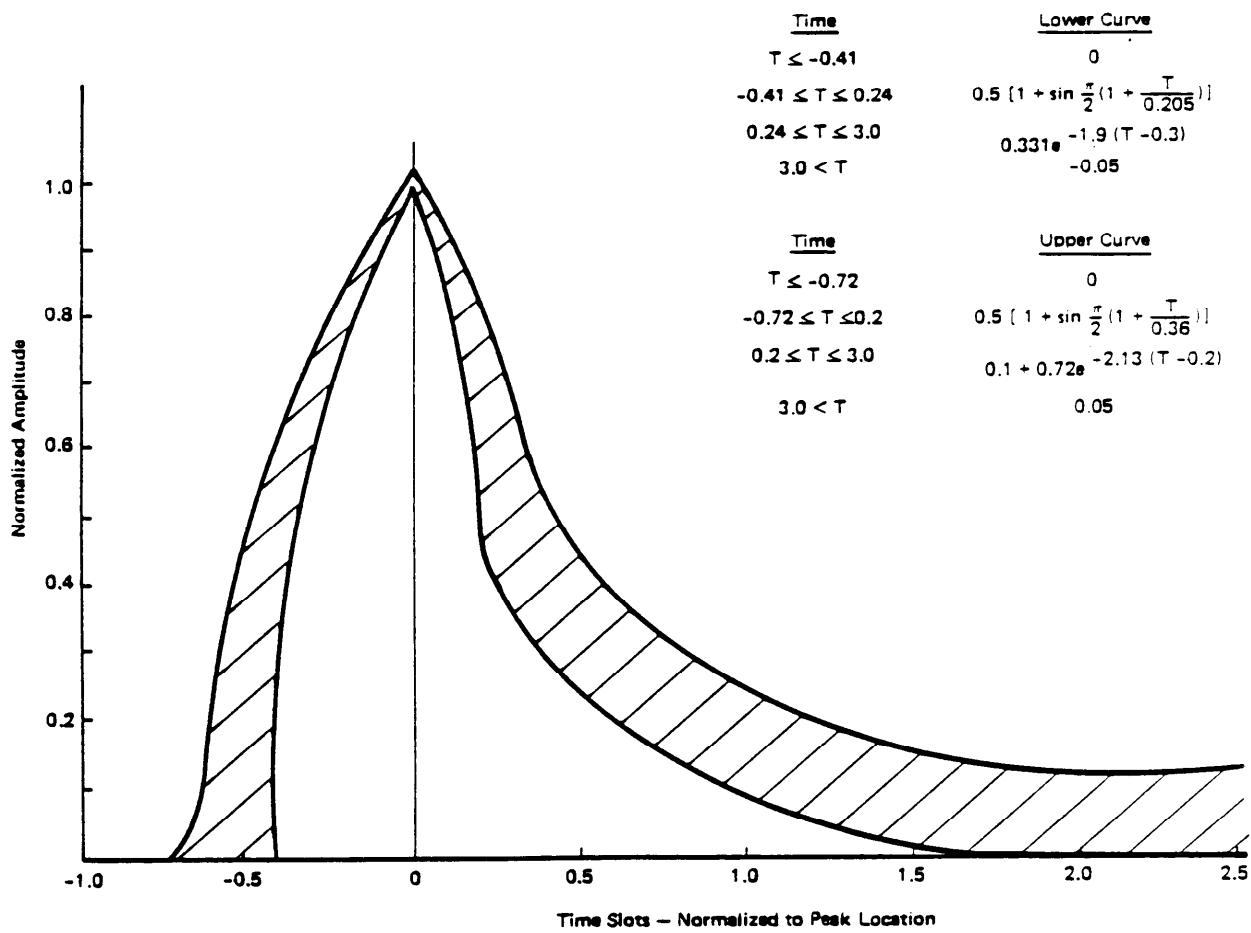

Figure 4-2 DSX-2 Isolated Pulse Template
- Pulse shape : An isolated pulse fits the template shown in Figure 4-2. The pulse amplitude is scaled by a constant factor to fit the template